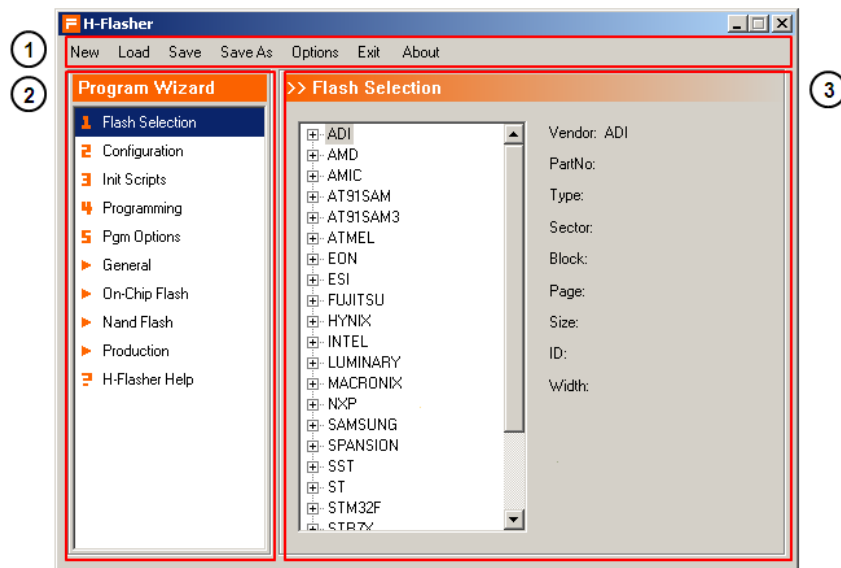

Fig 2-18 Main Window of H-Flasher
The main window of H-Flasher looks like Fig 2-18. In the figure, (1) is the menu, (2) is the program wizard and (3) is the configuration area. In the wizard, user can go to different steps. According to the selection on the wizard, the configuration area has different displays. For detailed information, please refer to Chapter 5.